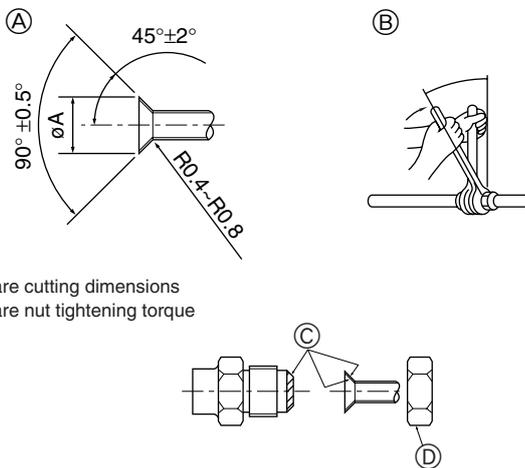

Fig. 4-1
4.2. Connecting pipes (Fig. 4-1)
- Apply thin layer of refrigerant oil to pipe and joint seating surface before tightening flare nut. ①
- Use two wrenches to tighten piping connections. ②
- Apply refrigerating machine oil over the entire flare seat surface. ③
- Use the flare nuts for the following pipe size. ④
① (Fig. 4-1)
② (Fig. 4-1)